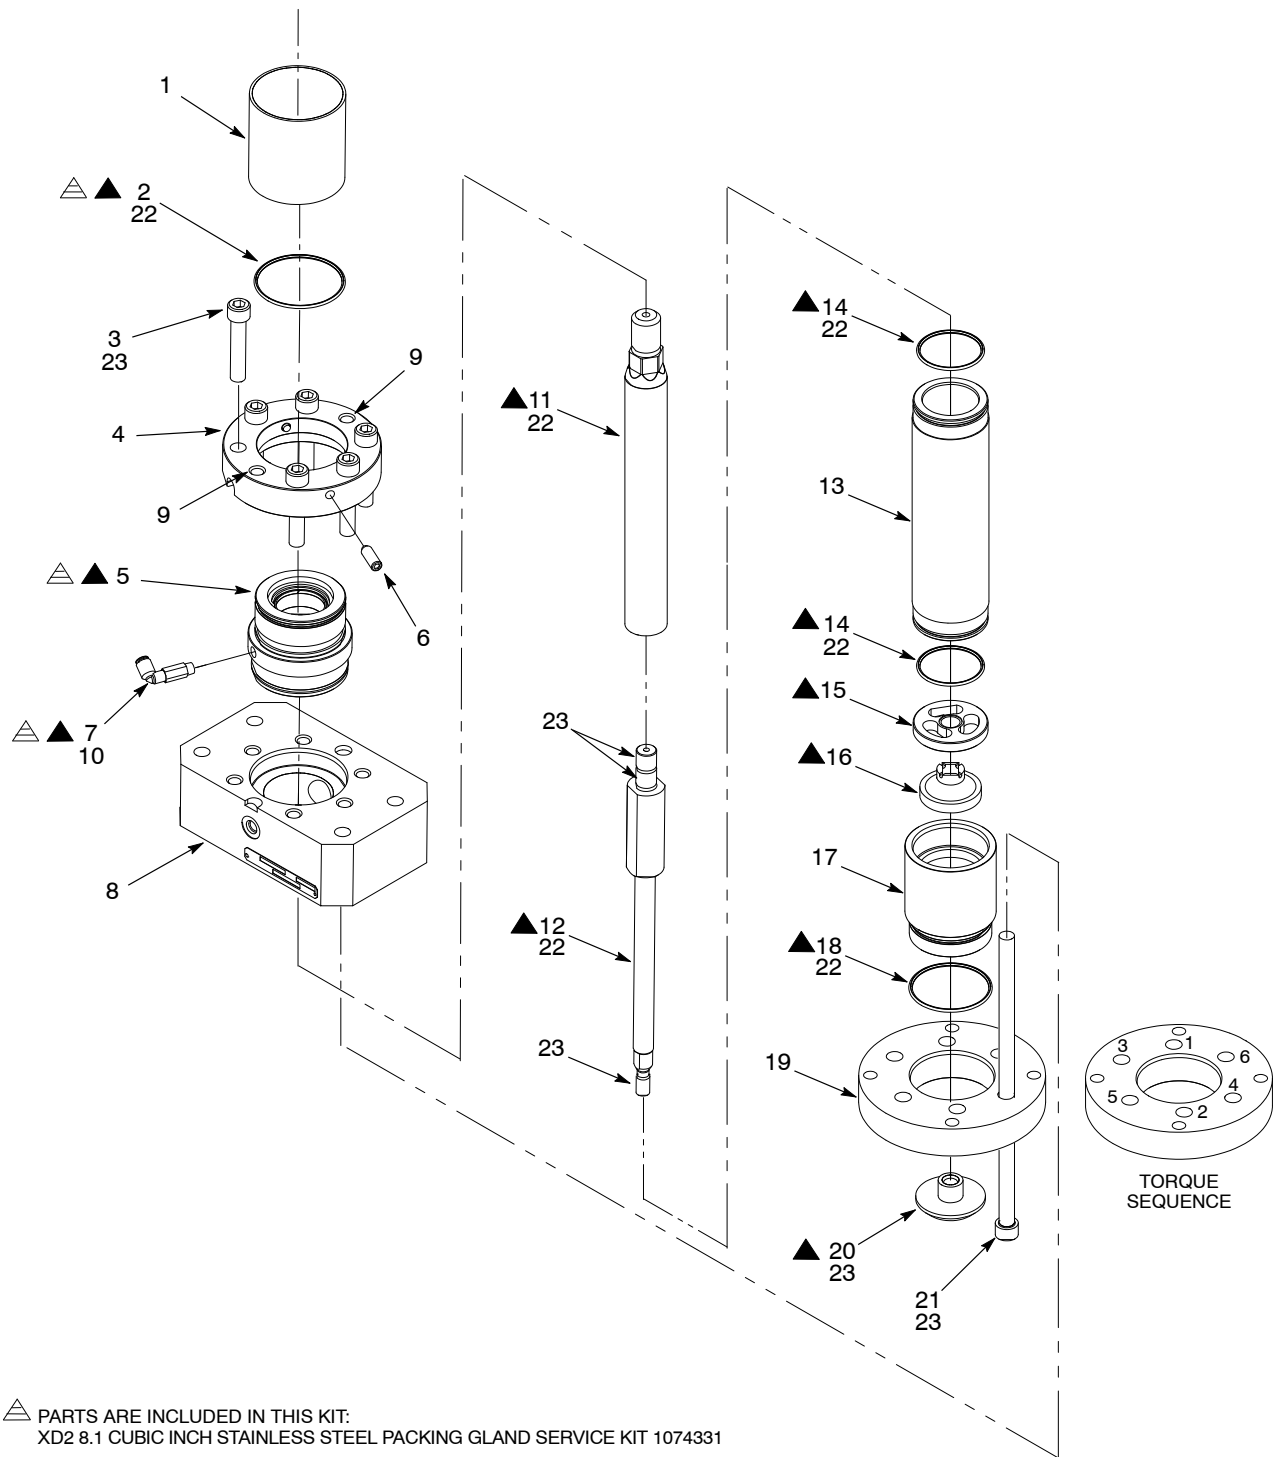

Figure 8 Stainless Steel Hydraulic Section Repairs
1. See Figure 8. Remove the solvent chamber (1) and the O-ring (2) from the packing gland (5). Discard the O-ring.
- a. Remove the screws (3) from the collar (4). Insert two screws into the threaded holes (9) as shown.
- b. Alternate tightening the screws to remove the packing gland assembly from the upper pump body (8).
- c. Loosen the set screws (6) and remove the packing gland (5) from the collar (4).
- d. Remove the fittings (7) from the packing gland.
3. Remove the shovel adapter (20) from the shovel rod (12).
4. Remove the screws (21) securing the cylinder assembly and follower plate housing (19) to the upper pump body (8). Remove the follower plate housing.
5. Remove the bottom housing (17), O-ring (18), lower check plate (16), and spacer (15). Discard the O-ring.
6. Remove the cylinder housing (13) from the upper pump body (8). Remove and discard the O-rings (14) from the cylinder housing.
7. Remove the shovel rod (12) from the plunger rod (11).
1. See Figure 8. Apply threadlock adhesive (10) to the threads of the fittings (7). Install the fittings into the packing gland (5) and tighten securely.
2. Apply Mobil SHC 634 lubricant (22) to the packing gland O-ring (2) and the I.D. of the packing gland (5).
3. Install the upper collar (4) onto the packing gland (5). Tighten the set screws (6) until they make contact with the packing gland. Do not over tighten the set screws.
4. Install the packing gland assembly onto the body (8).
5. Apply Never Seeze (23) to the threads of the screws (3). Install the screws into the packing gland assembly and tighten to 102–108 N•m (75–80 ft-lb).
6. Apply Mobil SHC 634 lubricant (22) to the cylinder housing O-rings (14). Install the O-rings onto the cylinder housing (13). Install the cylinder housing onto the upper pump body (8).
- a. Apply Never Seez (23) to the upper threads and pilot of the shovel rod (12).
- b. Connect the shovel rod to the plunger rod (11) and tighten to 272–298 N•m (200–220 ft-lb).
- c. Apply a thin coat of Mobil SHC 634 lubricant (22) to the plunger rod (11) and the shovel rod (12).
8. Using either an arbor press or hydraulic press, install the plunger rod assembly into the cylinder housing (13) and packing gland (5).